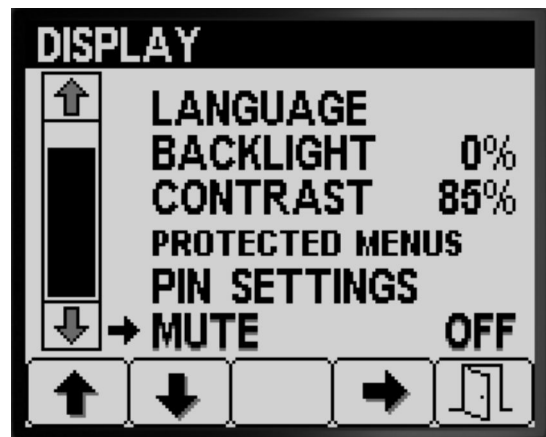

Figure 31
- Press button 4 to turn the audio indicator ON or OFF (Figure 31).
- Press button 5 to save the setting, exit the MUTE screen, and return to the SETTINGS screen (Figure 31).